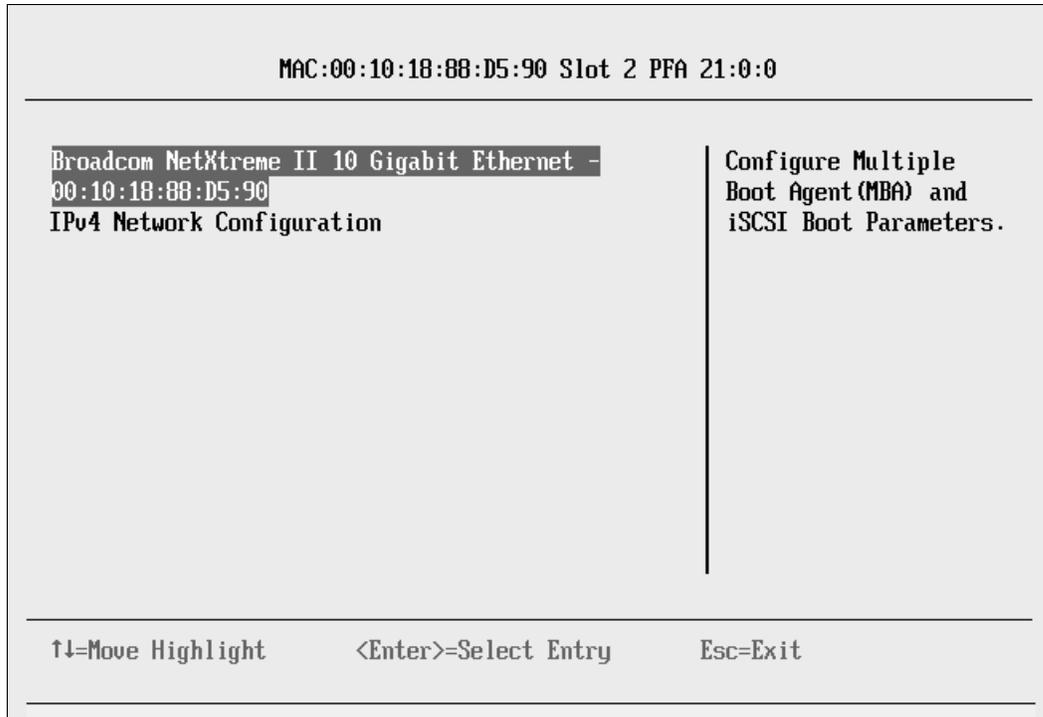

Figure 9-4 Broadcom selection panel
6. In the Broadcom Main Configuration panel (Figure 9-4), click **Broadcom NeXtreme II 10 Gigabit Ethernet - 00:10:18:88:D5:90**.